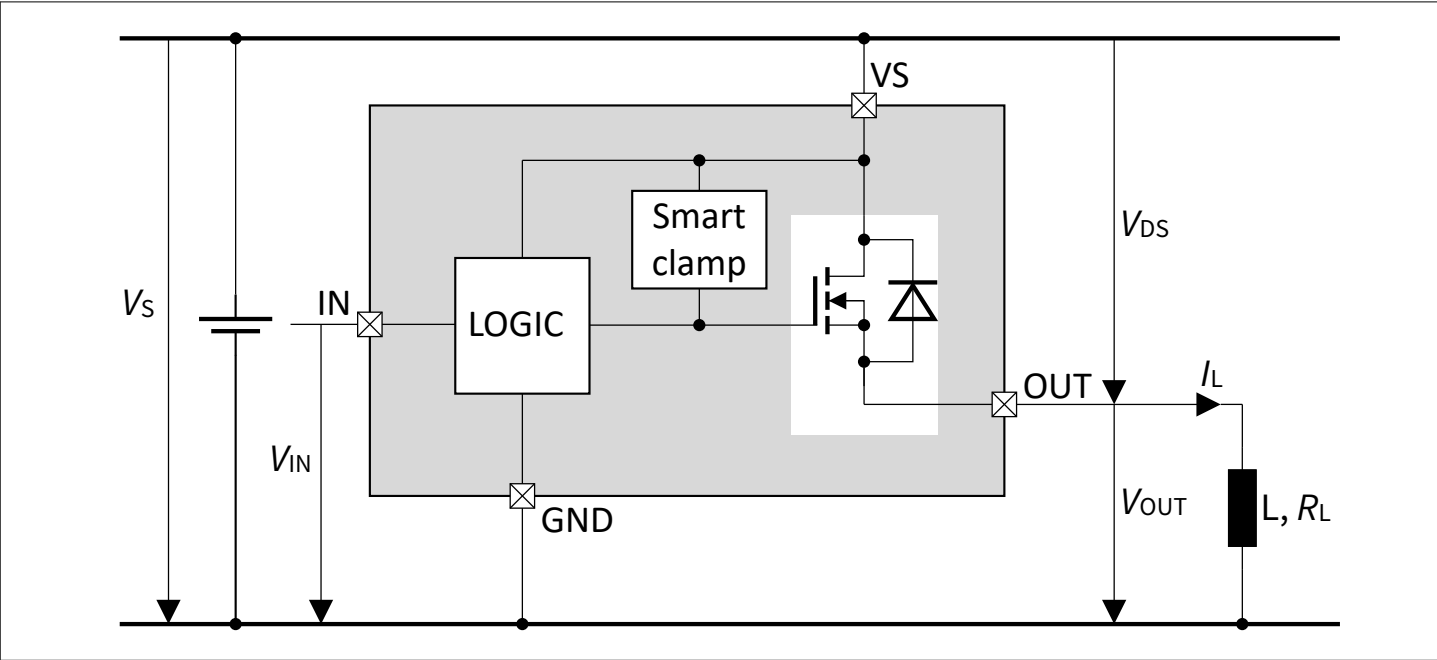
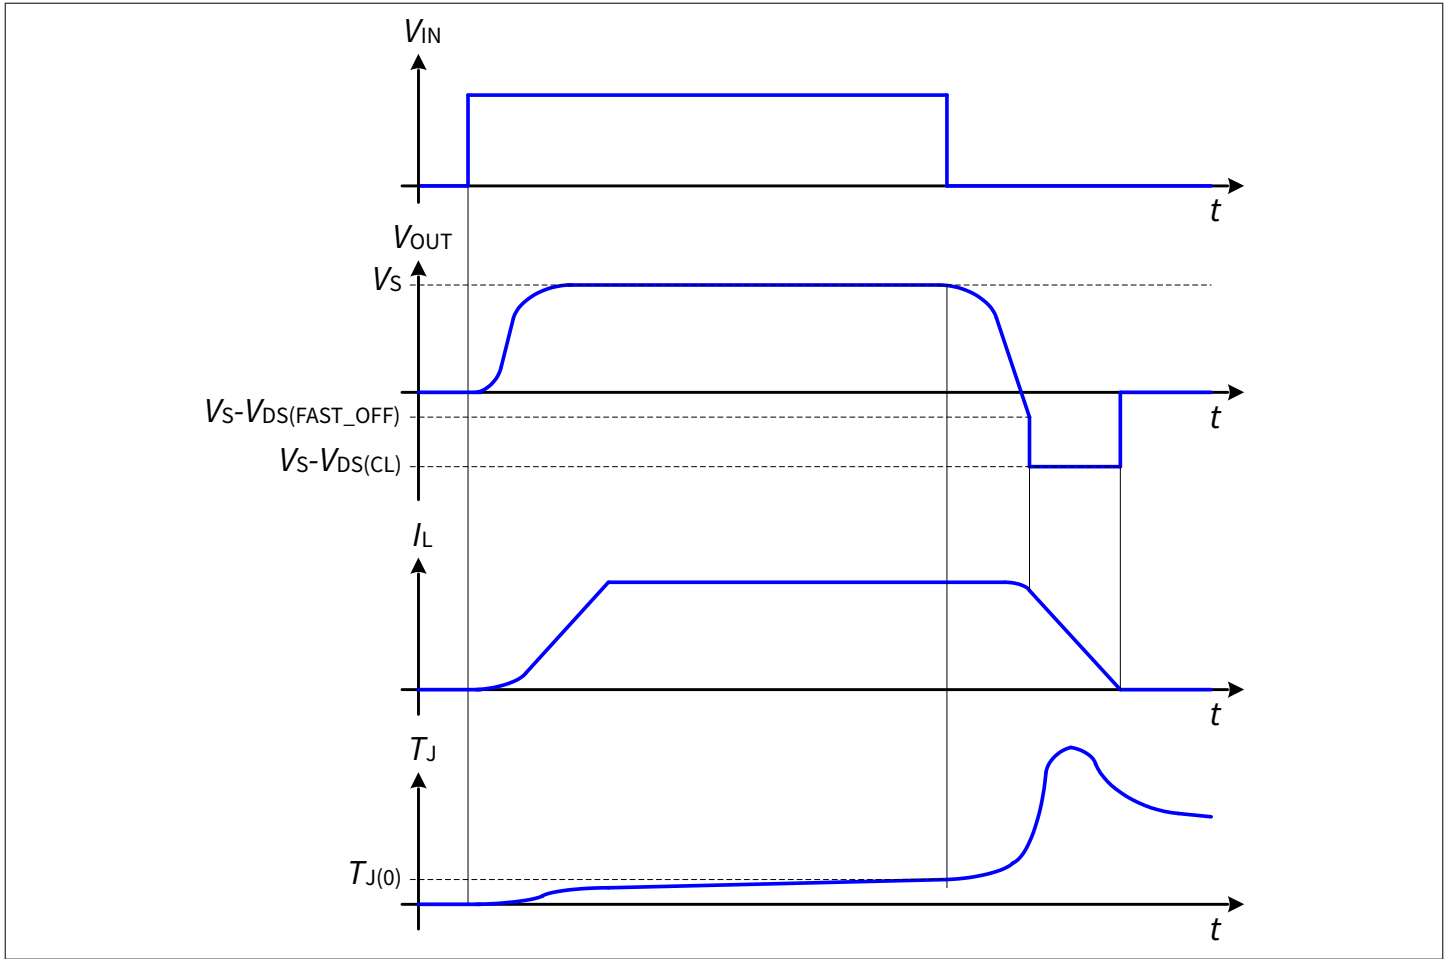

Figure 11 Output clamp
Figure 12 **Switching an inductance**
When switching off inductive loads with high-side switches, the voltage V_{OUT} drops below ground potential, since the voltage polarity across the inductor has to be reversed to get a decrease of the inductive load current. To prevent the destruction of the device due to high voltages, there is a smart clamping mechanism implemented that keeps negative output voltage to a certain level ($V_S - V_{DS(CL)}$). Please refer to Figure 11 and Figure 12 for details. Nevertheless, the maximum allowed load inductance remains limited.
The device features a fast switch off when driving an inductive load in order to increase the energy capability. The fast turn off is triggered when V_{DS} is higher than $V_{DS(FAST_OFF)}$. Please refer to Figure 12 for details.
- The device is turned off by applying $V_{IN(L)}$ at the IN pin. During the switch off operation the OUT pins' voltage in respect to VS pin drops below $V_{DS(FAST_OFF)}$. See Figure 12.